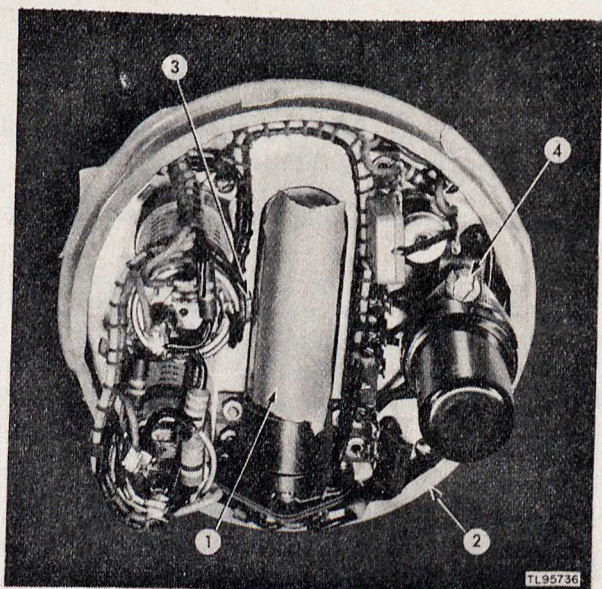

Figure 23. Receiver chamber cover, masking details.
1. Mask the front of the phototube (fig. 23 (1)).
3. Mask the engaging grooves and the chamber contacting surface around the rim of the cover (fig. 23(2)).
4. Mask the rubber grommets (fig. 23(3) and (4)).